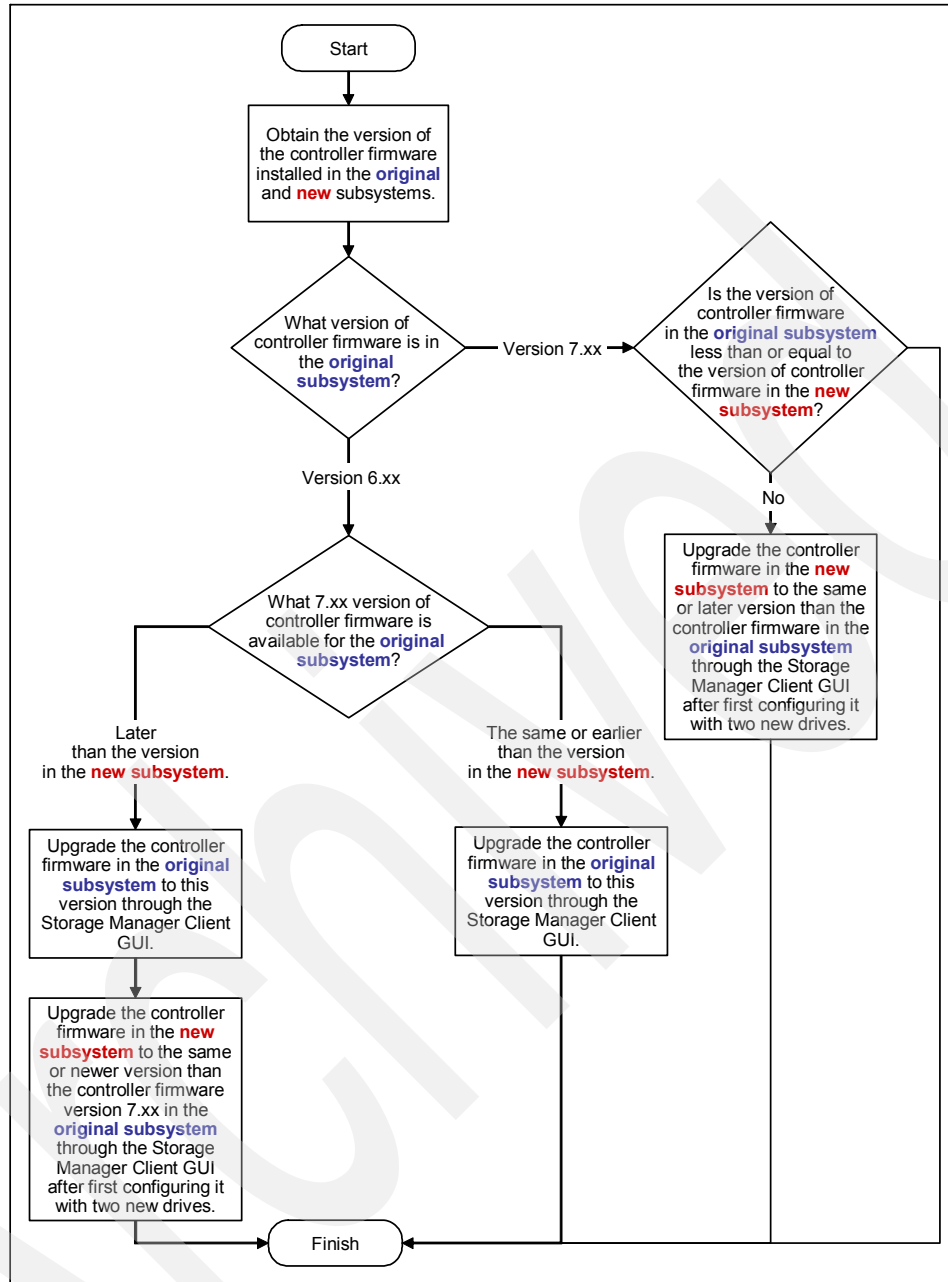

Figure 7-48 Firmware compatibility flow chart for a DS4700 or DS4800 to a DS5000 storage subsystem upgrade
1. Use the flow chart shown in Figure 7-48 on page 391 to determine the firmware version required in the new storage subsystem. To download the latest firmware level, go to the following address: